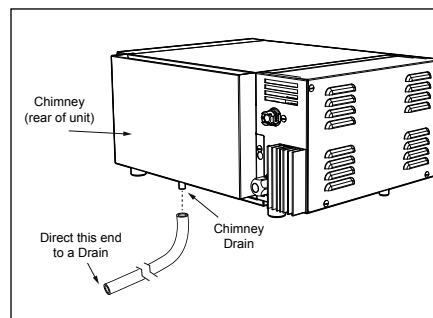

Figure 2A. Chimney Drain Tubing
4. Connect a length of 1/4" (6.5 mm) I.D. flexible tubing (not supplied) to the bottom of the Chimney as shown in Figure 2A. Secure using a hose clamp (not supplied). Direct the other end of the tubing to a drain.